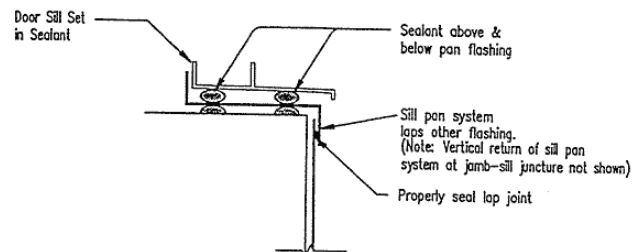

Fig. 3d. Pan Flashing
- 3.4 **Sill Pan System** - Sill pan system is a water barrier installed under the door sill with vertical returns at the jamb-sill juncture and the interior leg of sill to prevent water entry (See Figures 3d and 3f).